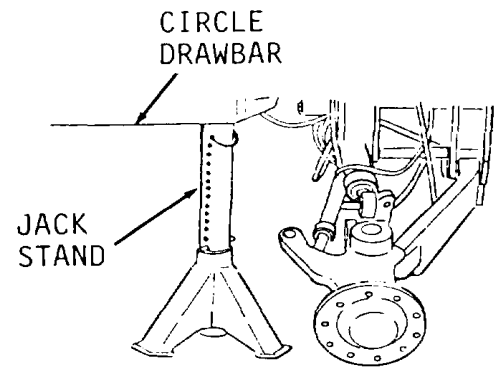

Figure 5-66.
1. Position jack stand under circle drawbar (Figure 5-66).